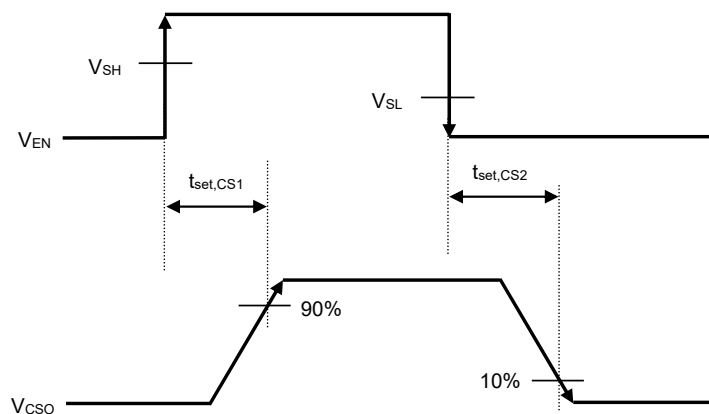

Figure 4
- *4. Refer to **Figure 4**. This specification is guaranteed by design.